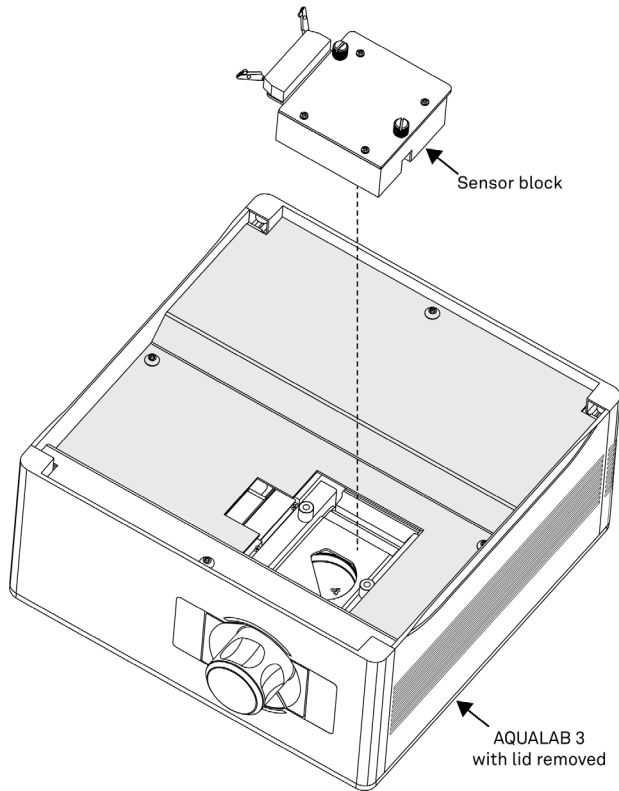

Figure 98 Remove sensor block
9. Loosen the thumbscrews and lift sensor block to remove (Figure 98).